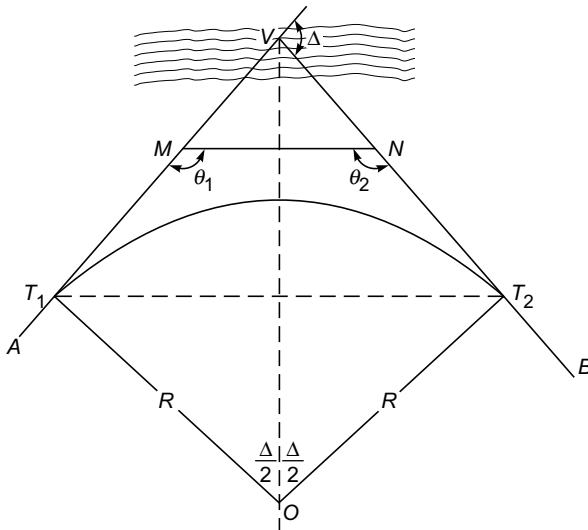

Fig. 2.16
- (a) **Point of Intersection is Inaccessible:** When the intersection point V falls in a lake, river, wood or behind a building, there is no access to the point V . Referring to Fig. 2.16, T_1 and T_2 be the tangent points and V the point of intersection. It is required to determine the value of the deflection angle Δ between the tangents and locate the tangent points T_1 and T_2 .
Solution: Referring to Fig. 2.16,